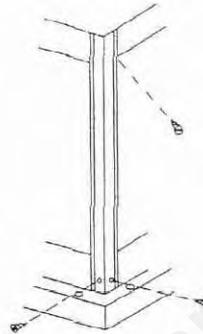

Figure 25
**Step 3.** Remove the three (3) screws in the shipping post as illustrated in Figure 25. The top screw is located behind the post.